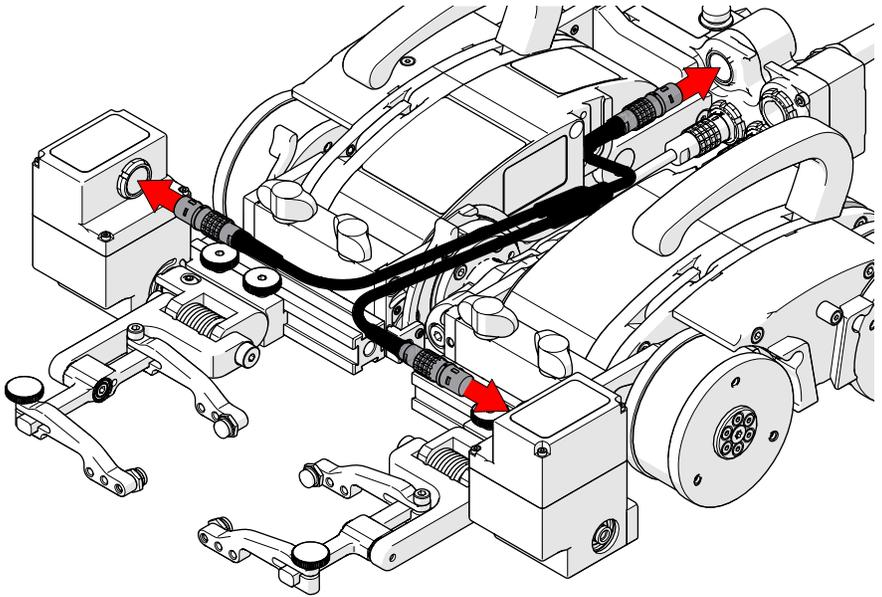

Fig. 31 - Connect split auxiliary cable
12. Connect the split auxiliary cable's dual side to each actuated probe lift (Fig. 31).
13. Connect the single side of the split auxiliary cable to the auxiliary port of the **NAVIC** umbilical (Fig. 31).